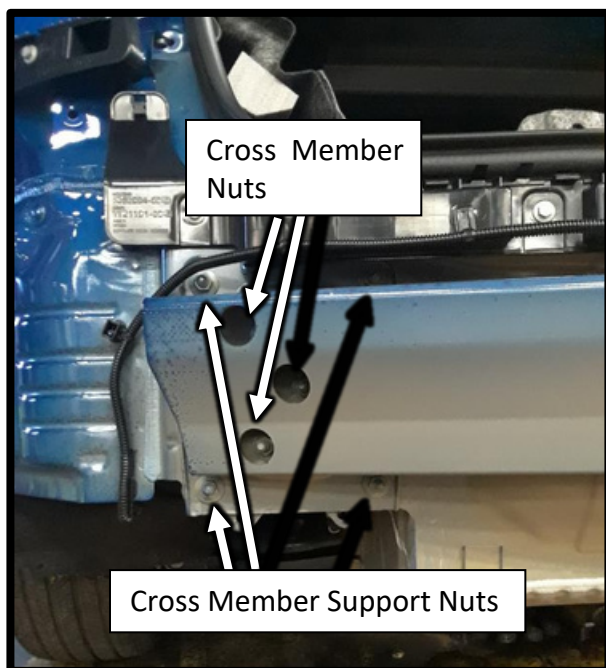

Figure 6.1
- Unbolt the cross member by removing the 3 cross member nuts on each side as shown in figure 6.1.